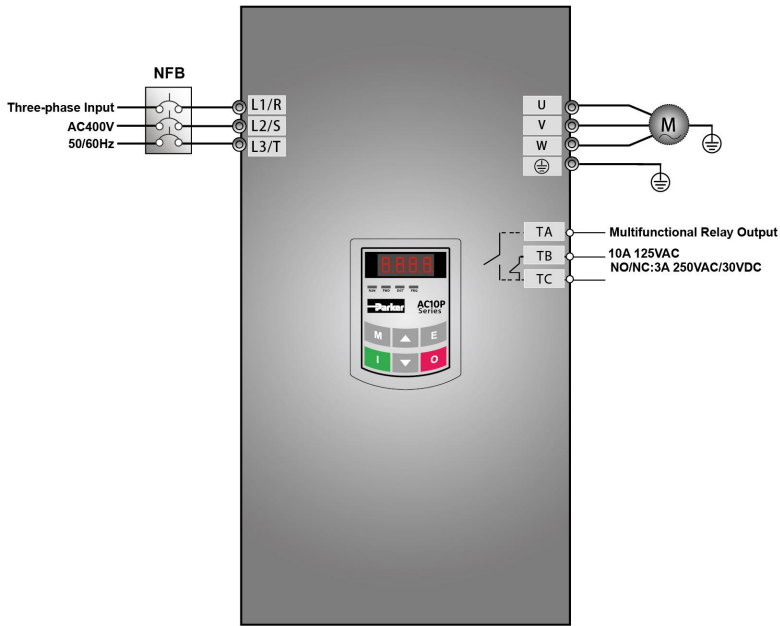

Figure 5-1 Wiring Diagram 1
- (1) Connect the wires in accordance with Figure 5-1. After having checked the wiring successfully, switch on the air switch, and power on the inverter.
- (2) Press the “M” key, to enter the programming menu.
- (3) Measure the parameters of the motor